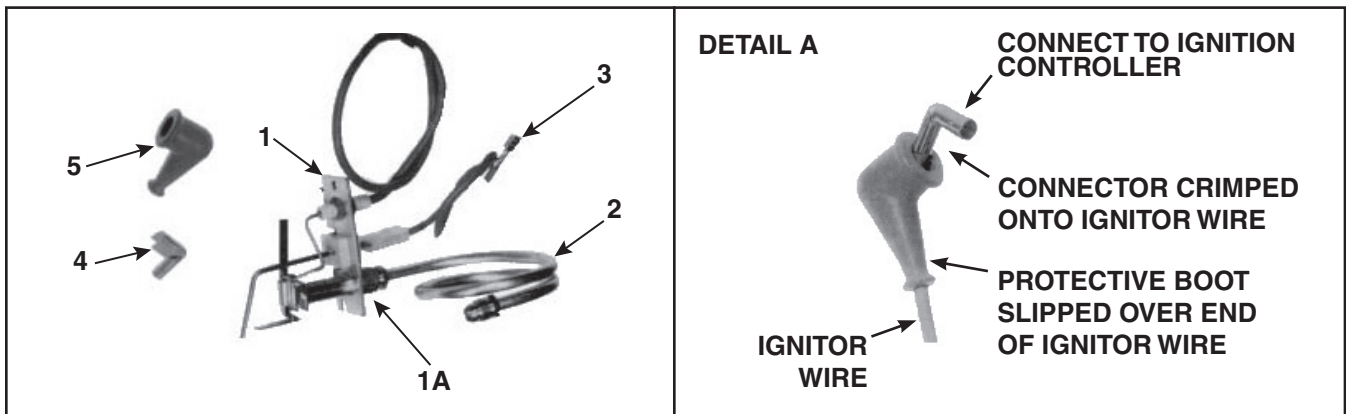

Figure 7. Horizontal Spark Pilot Replacement Kit (Refer to Table 10)
- A horizontal spark pilot replacement kit (see Figure 7) is available for units manufactured *before* series 6. Components are listed in Table 10. Instructions follow for connecting the ignitor lead to model G60, G67, or G77 ignition controllers using a terminal connector and a protective boot.
Refer to Figure 7, DETAIL A to connect the ignitor lead on replacement spark pilots to model G60 and G67 ignition controllers as follows. Item numbers in parentheses refer to Figure 7 and Table 10.